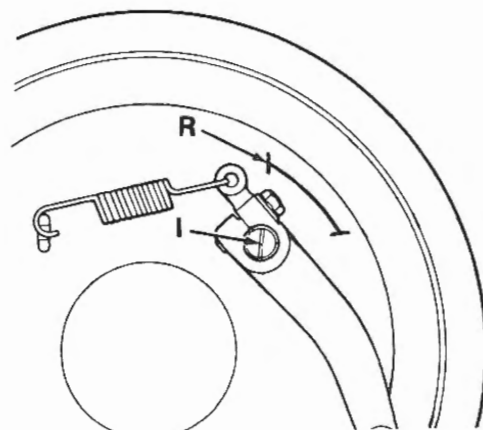

Fig. S13-26—Indicator mark (I) on rear brake shoe cam should be within range (R) when brakes are applied for brake linings to be considered satisfactory.
All models are equipped with a rear brake lining wear indicator mark (I—Fig. S13-26) scribed on rear brake shoe cam to externally determine brake lining wear limit. To externally check rear brake lining wear, apply rear brake and note location of indicator mark (I) in relation to range (R) on brake backing plate. If indicator mark (I)